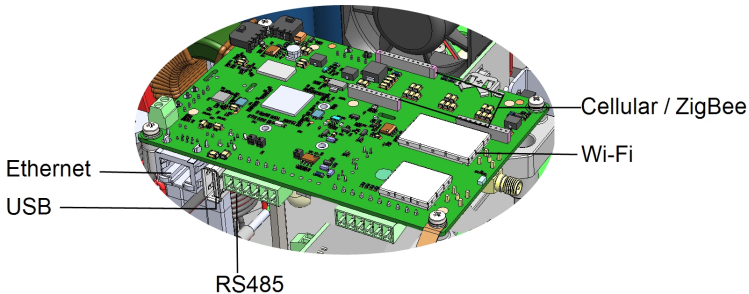

Figure 13: Communication board connectors
- e. Connect the Ethernet connector to the RJ45 port on the communication board (see *Figure 13*).